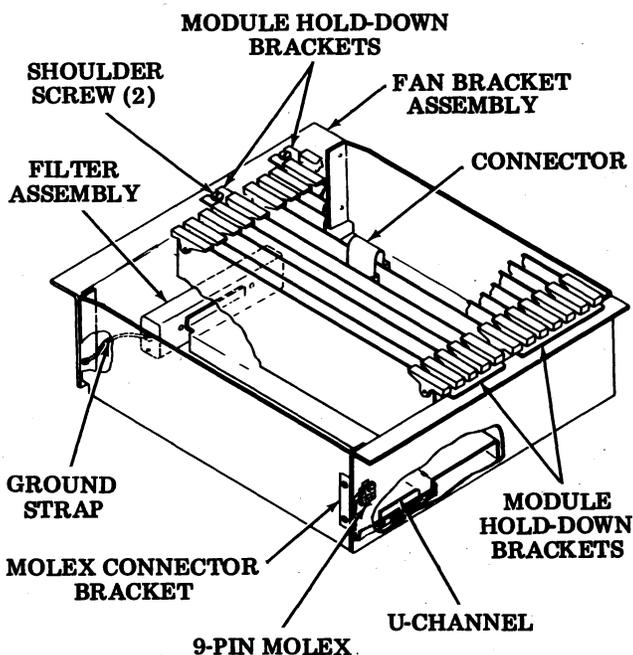
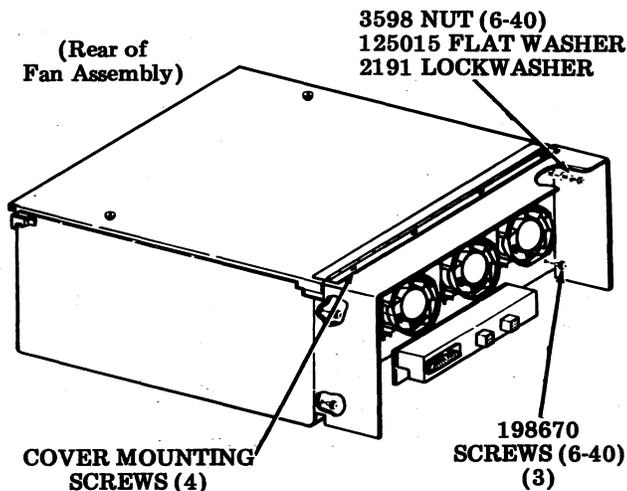

Fig. 18—Electronics Package (Under Monitor)
Fig. 21—Fan Assembly Removal
4.33 Remove the two Molex connector bracket screws from the left side of the electronics package (Fig. 18), and pull the bracket and Molex connector forward.
4.35 Lift the Molex and cable up to remove it from its U-channel inside the front plate of the electronics package (Fig. 18).
4.36 Disconnect the ground strap from the electronics package by removing the lower left-hand screw from the rear of the electronics package. This screw is one of four that also holds the fan bracket assembly to the electronics package (Fig. 18).
4.37 Remove the fan bracket assembly by removing the remaining three screws from the other corners on the back of the electronics package. Pull the fan assembly straight back to disengage the shoulder screws on the top of the fan assembly from the hold-down brackets of the controller logic module and display logic module (Fig. 18).
4.38 Unplug the connector from the top of the circuit card in position X06 of the display logic (Fig. 18).
4.40 Remove the screws on the left and right side of the filter assembly cover attached to the rear of the controller module (Fig. 18). One of the screws attaches the ground strap to the left side of the filter assembly. Remove the metal strip from the sides and bottom of the filter assembly.
4.51 Remove the cover of the electronics package by removing the four screws that hold the covers hinge to the fan collar. With these four screws removed the cover can be lifted off the electronics package (Fig. 21).
package. This screw is one of four that also hold the fan collar and fan bracket assembly to the electronics package (Fig. 21).
4.54 Remove the fan assembly and fan collar by removing the remaining two screws and nut from the other three corners of the rear of the fan assembly (Fig. 21). Pull the fan assembly and fan collar straight back to disengage the shoulder screws on top of the fan assembly from the module hold-down brackets (Fig. 18).
4.55 Unplug the connector from the top of the circuit card in position X06 of the display logic (Fig. 18).